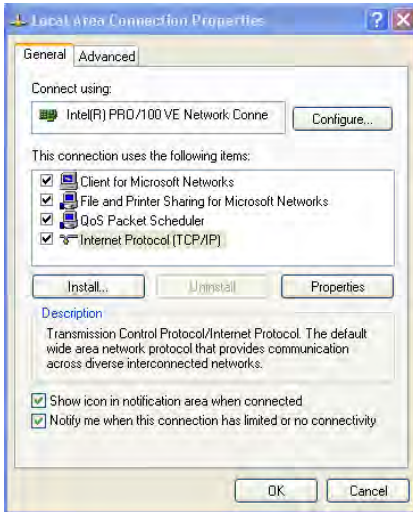

Figure 4: Local Area Connection Properties Window
5. Select the *Internet Protocol (TCP/IP)* and click the *Properties* button (see Figure 4).